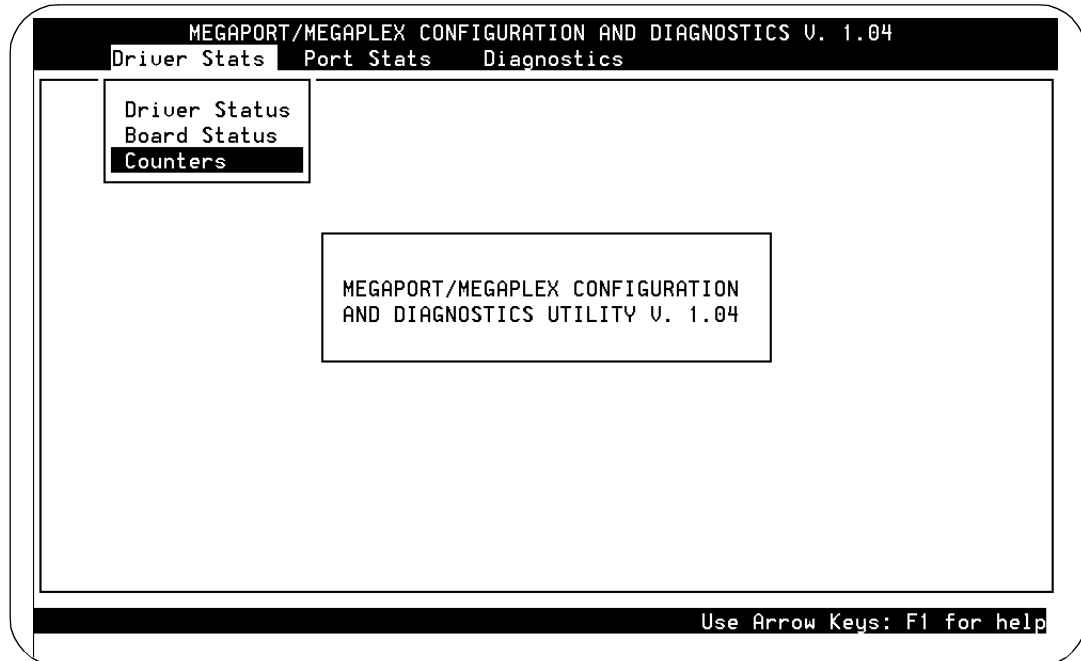

Figure 2-7. Megaport and Megaplex Configuration and Diagnostics Screen
The system displays the Megaport and Megaplex Configuration and Diagnostics screen (Figure 2-7).
1. Starting at the Megaport and Megaplex Configuration and Diagnostics screen (Figure 2-7).
1. Starting at the MegaPort and Megaplex Configuration and Diagnostics screen (Figure 2-7).